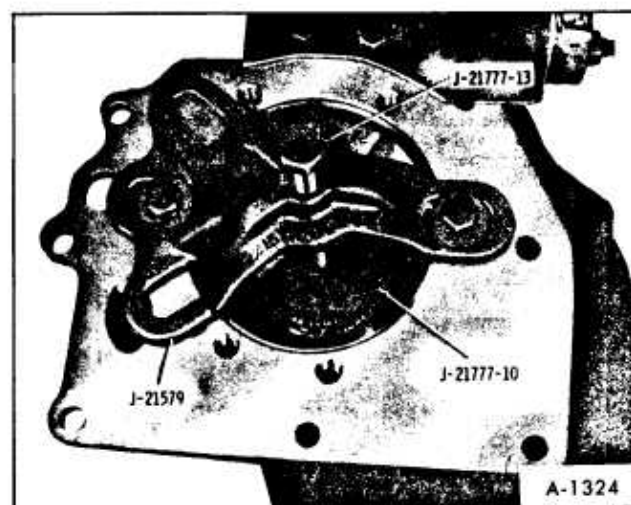

Figure 36—Pre-Loading Pinion Front Bearing
3. Position Tool J-21777-10 on front bearing. Install Tool J-21579 on final drive housing and retain with two bolts. Thread screw J-21777-13 into J-21579 until tip of screw engages Tool J-21777-10. Torque screw J-21777-13 to 20 in. lbs. to pre-load bearing. (figure 36)